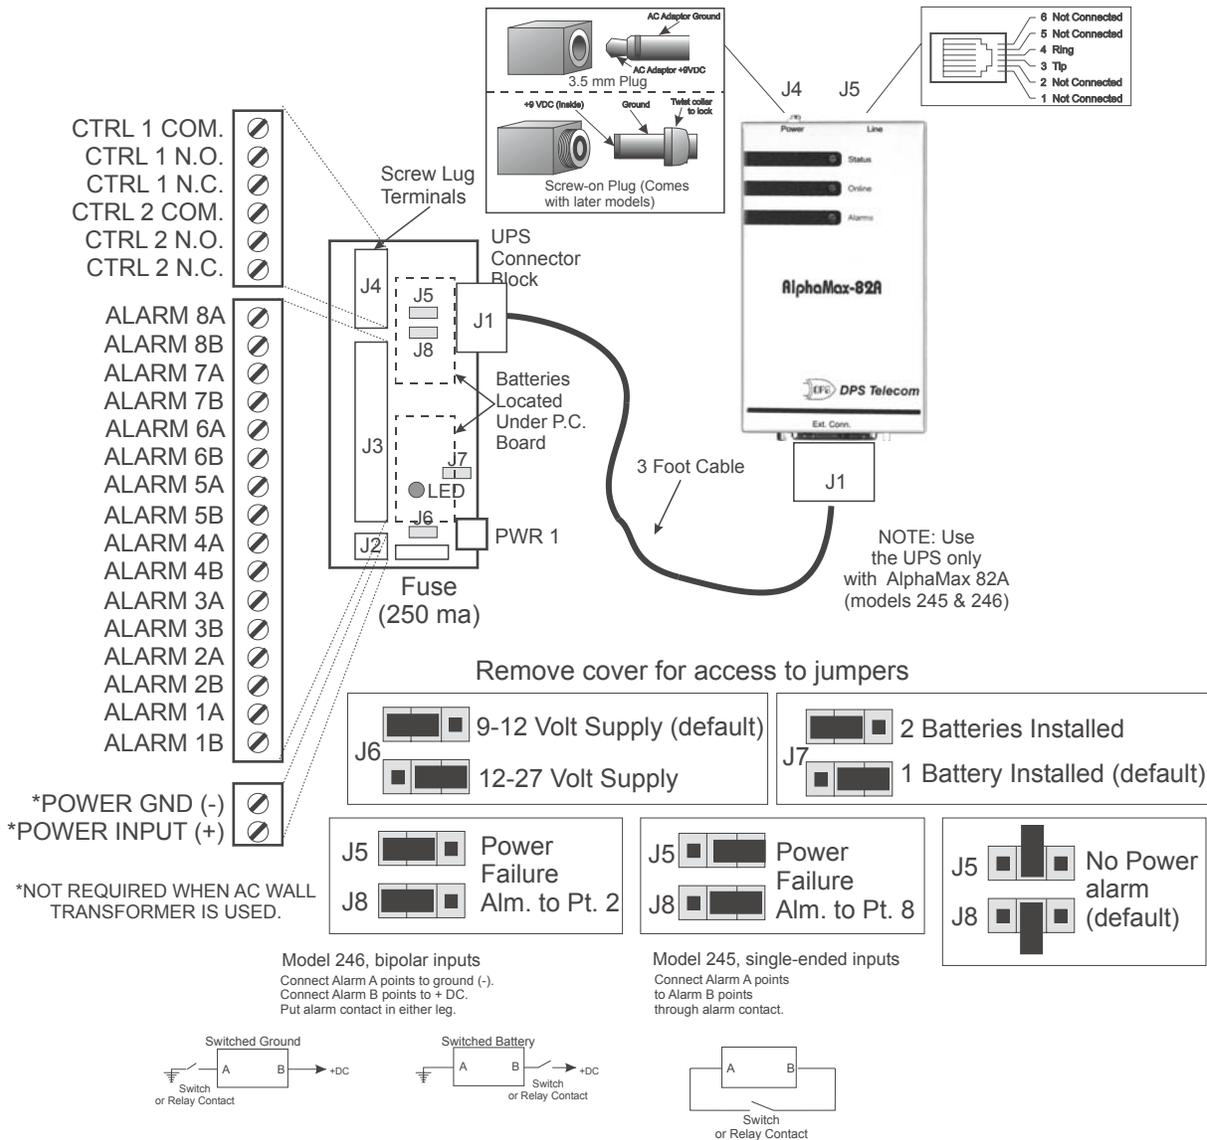

Fig. 7 - UPS single Connector Block Provides up to 3 Hours of Battery Backup.
- e. Change jumpers as needed. (See detail in Fig. 7.)
8. Connect all alarm and control points at the connector block. (Fig. 7)
Example: (see Fig. 7) To operate alarm point 5, Alarm 5A connects to one terminal of a (normally-open) switch or relay contact. Alarm 5B connects to the other terminal. When the switch or relay contact closes, current flows in the circuit and an alarm is sensed.
Example: (see Fig. 7) Switched ground: To operate alarm point 5, Alarm 5A connects to one terminal of a (normally-open) switch or relay contact. The other terminal connects to negative ground. Alarm 5B connects to positive battery. When the switch or relay contact closes, current flows in the circuit and an alarm is sensed.